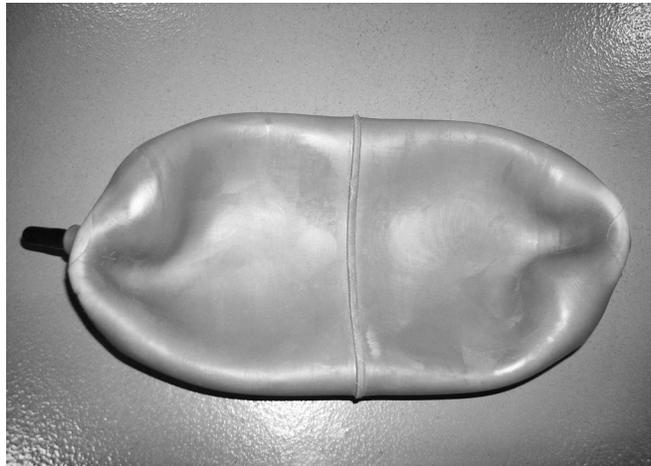

Fig. 15
14. Remove the top spring seat from the coil spring. Remove the black plastic cap from the barbed stem on the end of the air spring (A). Exhaust the air from the air spring by rolling it up toward the barbed stem. Replace the cap on the stem to hold its flat shape. Fold the air spring into a “hot dog bun shape” (fig. 15).